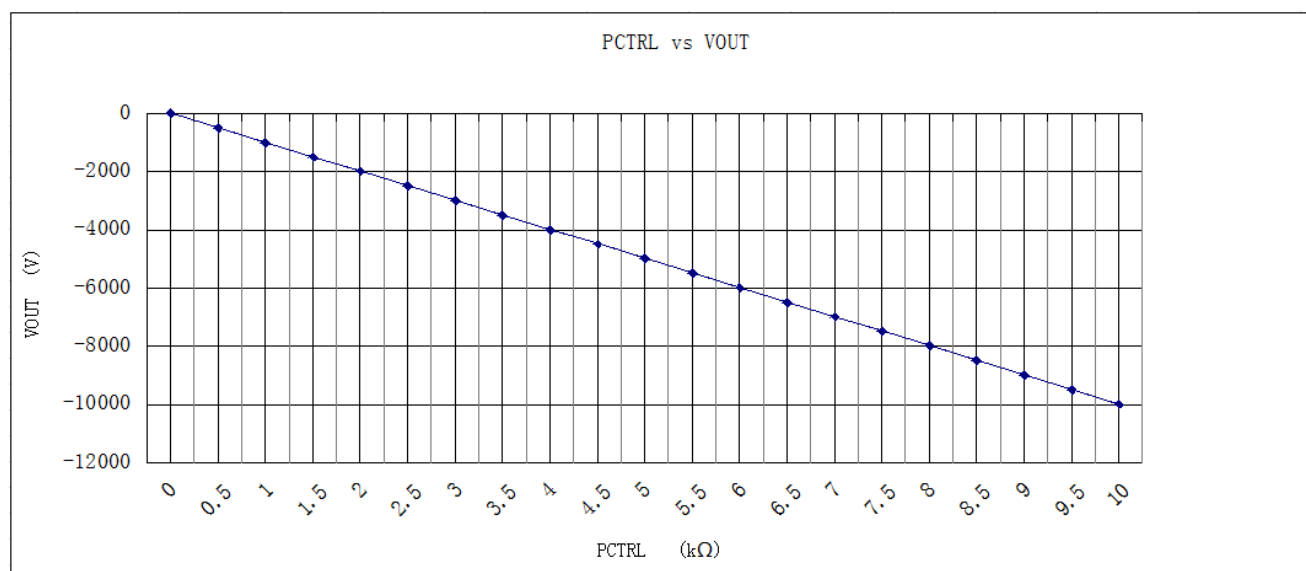

Figure 4. PCTRL VS. VOUT
5. HV adjustment: 10-turn potentiometer for adjusting output voltage. Rotate it clockwise to increase the output voltage, and the potentiometer resistance = the corresponding scale $\times 10\Omega$. For example, as Figure 4 shows, when the scale is 10, and the frame above the scale shows 1 (1k Ω), then the resistance = $10 \times 10\Omega + 1k\Omega = 1.1k\Omega$, and the like.